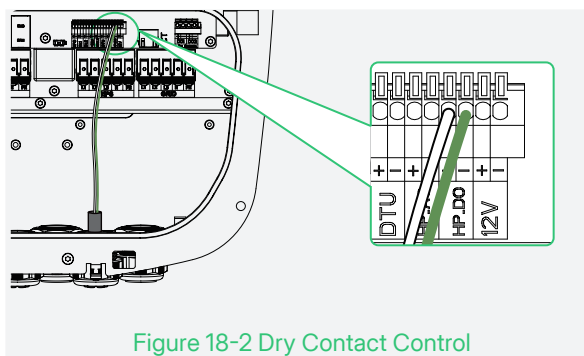

Figure 18-2 Dry Contact Control
- Figure 18-2 is for the generator controlled by dry contact.